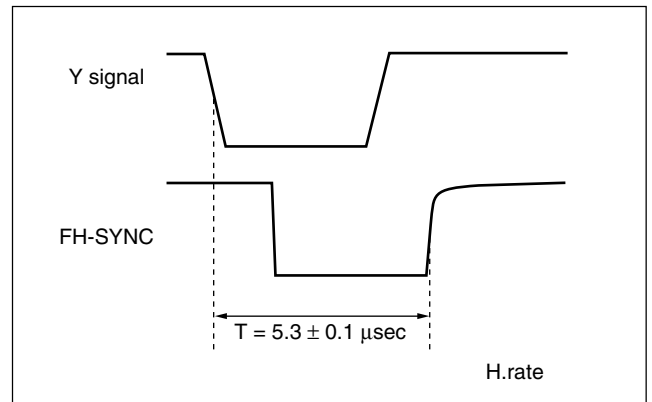

Fig. 3-5-1 FH SYNC position
- (1) Connect channel 1 of the oscilloscope at CN1 pin 14.
- (2) Connect channel 2 of the oscilloscope at TP1 round (FH SYNC).
- (3) Observe two waveforms, then adjust VR1 so that the waveforms timing width becomes 5.3 ± 0.1 µsec as shown in Fig. 3-5-1.